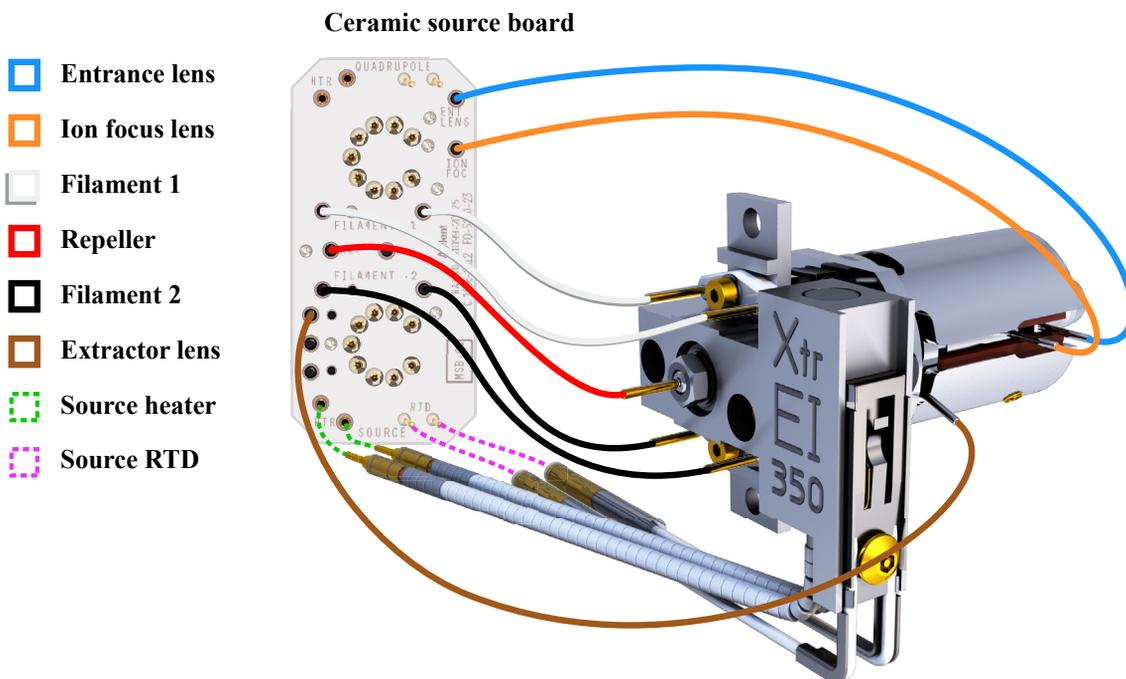

Figure 57 Wiring for the EI XTR Source
- 1 Use tweezers or needle nose pliers to connect/disconnect the ceramic source board wire leads at the source connectors. (See Figure 57.)